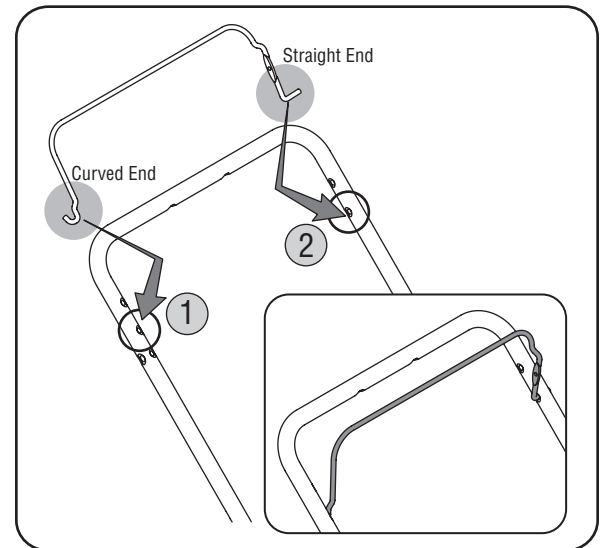

Figure 3-5
1. Insert the curved end of the blade control into the *center* hole located on the right side of the upper handle. See Figure 3-5.
2. Gently squeeze the blade control inward and insert the straight end into the *lower* hole located on the left side of the upper handle. See Figure 3-5.